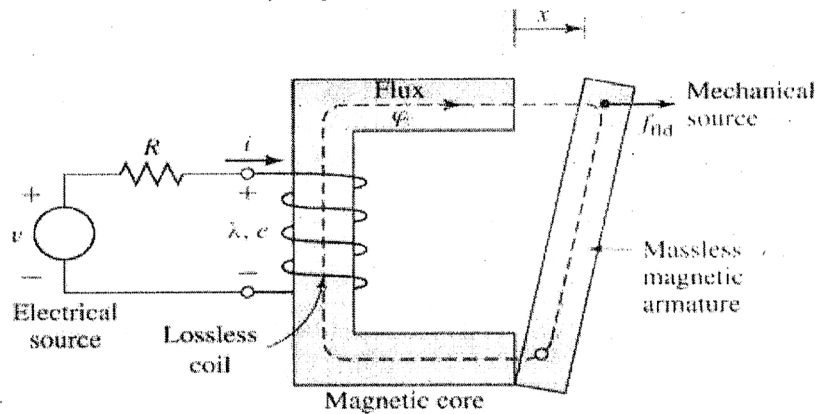

Fig.1
1. a) Consider the operation of an electromagnetic relay shown in fig.1, where one winding is mounted on a stationary member of iron and a movable member of iron is attached to a wall of the relay by a spring on one side. Now show that the energy converted to mechanical form equals the area between the two magnetization characteristics (flux vs.mmf) respectively for the open position and closed position with respect to movement of the plunger. Assume the necessary parameters for the system concerned.
- b) Derive the expressions for mechanical force in terms of field energy and co-energy if the plunger shown in fig.1 is allowed to move an infinitesimal distance in the direction of magnetic force acting upon it. **8+8=16**
- b) In an electromagnetic relay shown in fig. 1, the exciting winding has 2000 turns. The cross-sectional area of the magnetic core is $20 \text{ cm} \times 20 \text{ cm}$. The reluctance of the magnetic circuit may be assumed to be negligible. Also neglect fringing effects.